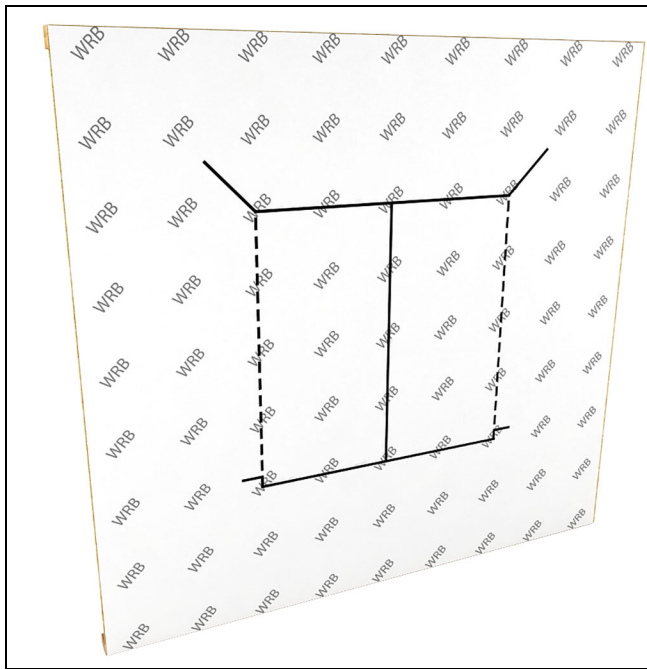

Figure 1
1. Make horizontal cuts to the Weather Resistive Barrier (WRB) across the top and bottom of the Rough Opening. Make a vertical cut down the center of the RO. then make 45 degree cuts away from the corners of the top of the RO. See Figure 1.